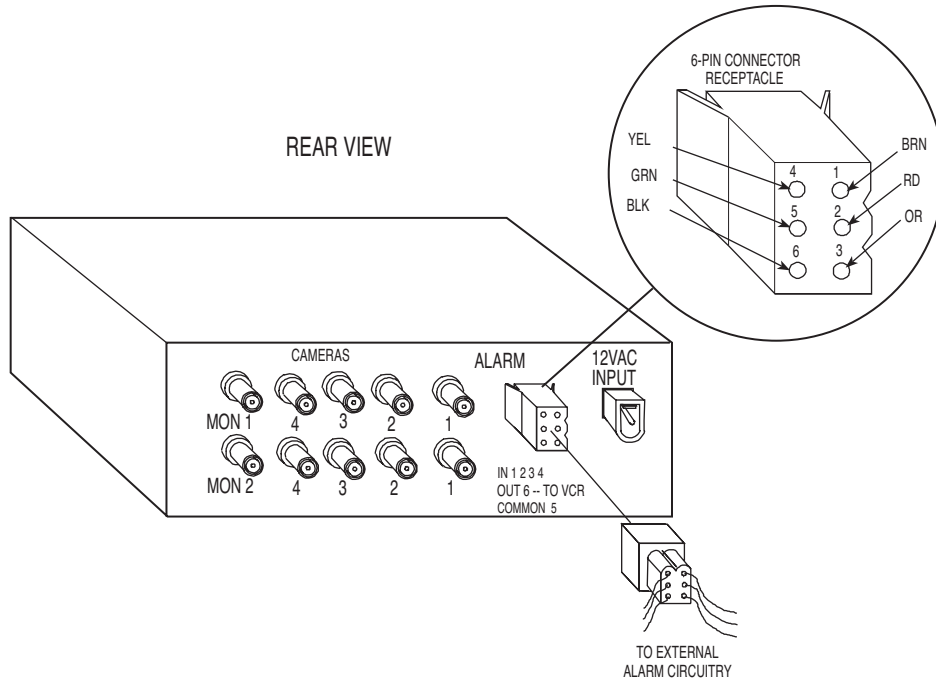
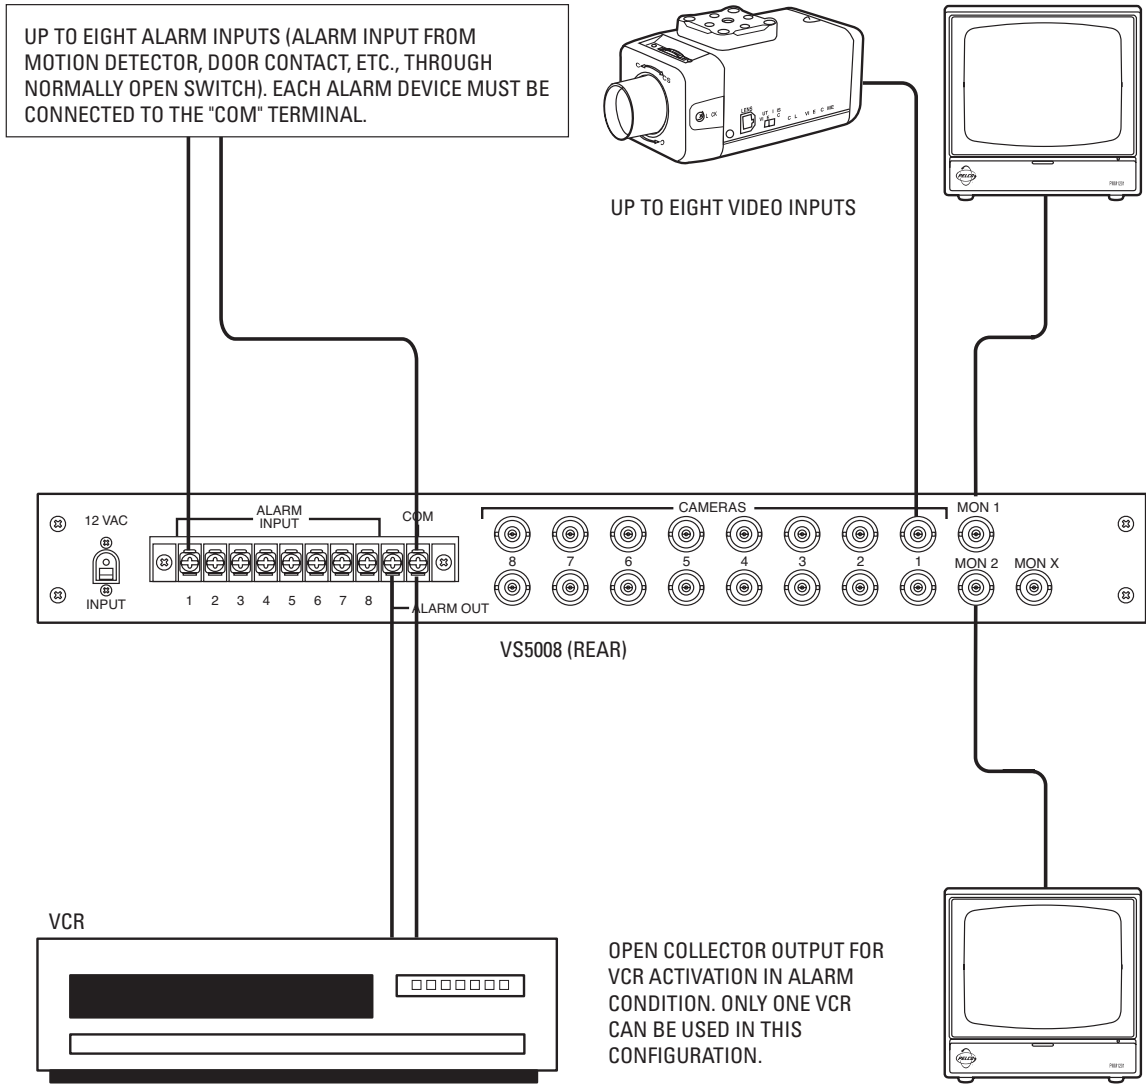

Figure 3. VS5004 Alarm Connections
Figure 4. VS5008 Alarm Connections
2. Make alarm connections if required. Refer to Figure 3 (VS5004) or Figure 4 (VS5008) and do the following:
3. Make alarm connections if required. Refer to Figure 3 (VS5004) or Figure 4 (VS5008) and do the following:
4. Make alarm connections if required. Refer to Figure 3 (VS5004) or Figure 4 (VS5008) and do the following: